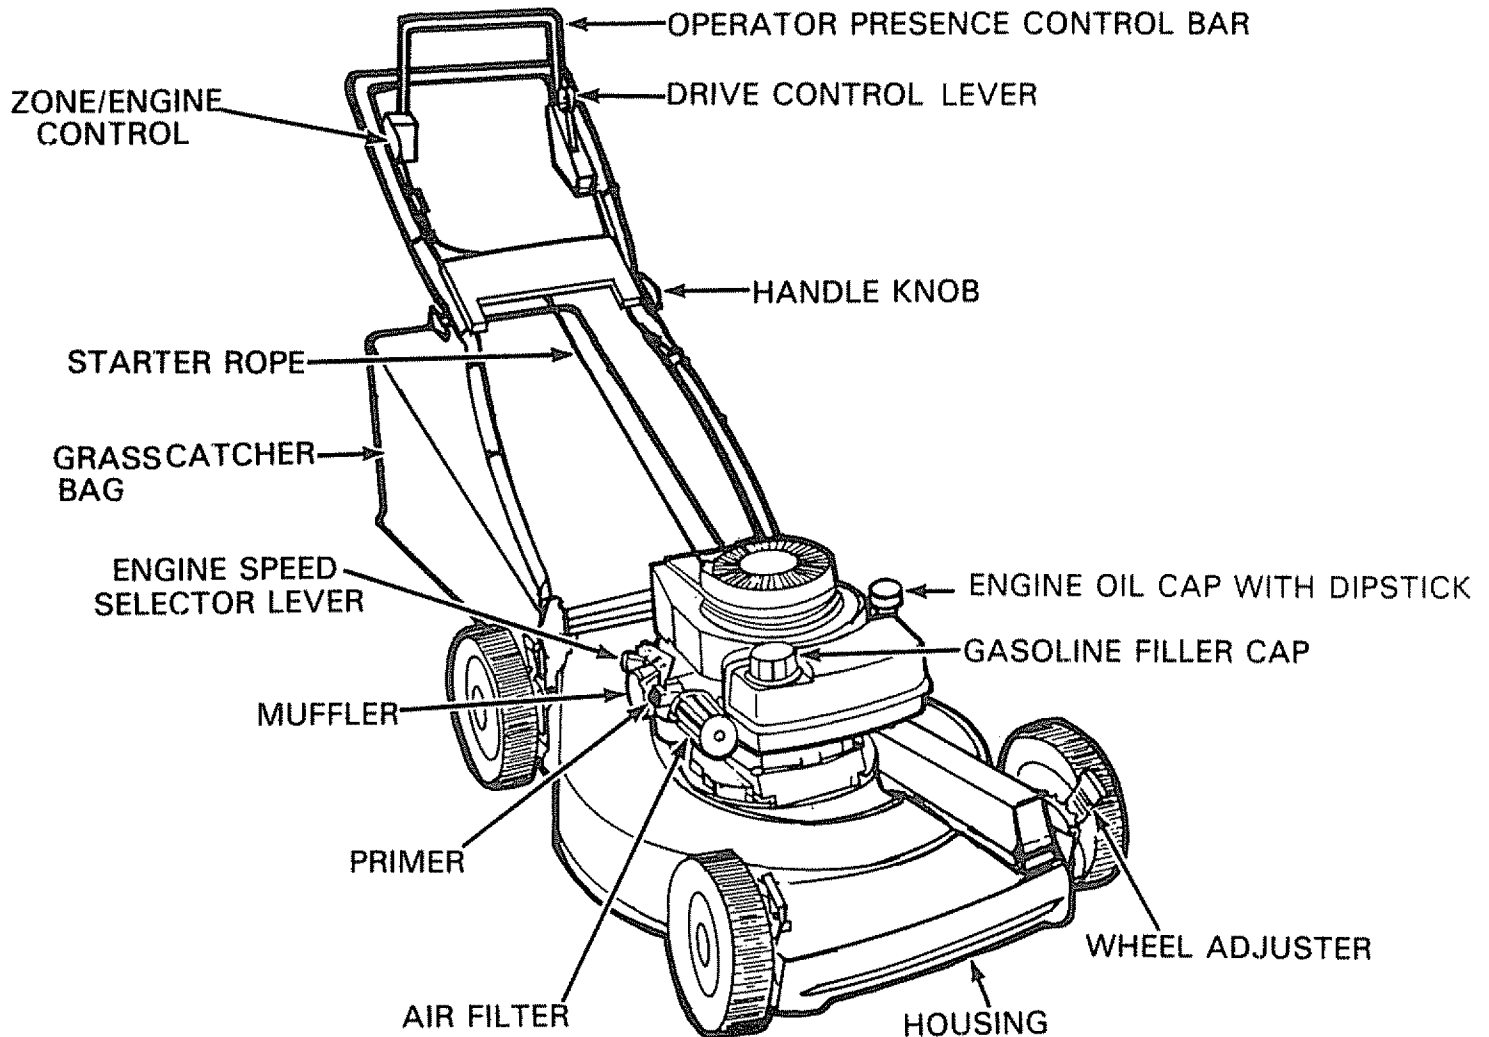

FIG. 4
- Fill gasoline tank with fresh, clean unleaded gasoline. DO NOT USE PREMIUM GASOLINE. BE CAREFUL NOT TO OVER FILL TANK (SEE FIG. 4).